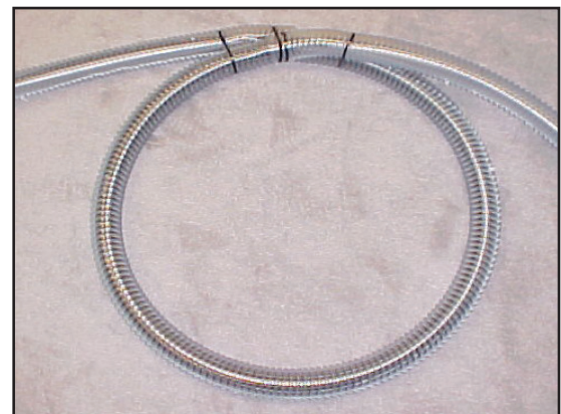

Figure 3: Cable Coil Placed Inside Slit Tube
5.9.2.2 Use cable ties to secure the slit tubing at the cable leg junction point. Ensure the tubing ends fully cover any exposed cable. See photo (figure 3)